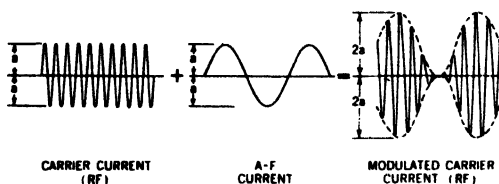

Fig. 41-4. One hundred per cent modulation.
You will note in Figure 41-4 that the amplitude of the carrier current is measured by the distance  $a$ . The amplitude of the audio-frequency current is assumed here to be the same value ( $a$ ). Now consider the positive half (above the  $X$  axis) of the carrier current. If the audio-frequency current is added to it, the positive half-cycles of audio-frequency current will be added to the carrier current to produce the peaks in the modulated current curve. These peaks will be equal to *twice* the amplitude of the carrier current.
**Power Relations in the Modulated Transmitter.** The amount of power required to modulate a transmitter depends on the percentage and type of modulation. To modulate a carrier 100 per cent with a single tone (as in Fig. 41-4) requires an audio-frequency power equal to one half of the radio-frequency carrier power. Here is how it is calculated.
For 100 per cent modulation, the audio-frequency voltage applied to the r-f amplifier plate circuit must have a peak value equal to the direct-current voltage on the r-f amplifier before modulating (Fig. 41-4). To obtain this without distortion, the radio-frequency amplifier must be operated at a direct-current plate voltage *less* than the modulator plate voltage. The extent of the voltage difference is determined by the type of modulator tube used. To obtain this drop in voltage, the resistor R is employed. The capacitor C permits audio-frequency voltages to flow around this resistor. This method of modulation is called *choke-coupled plate modulation*.